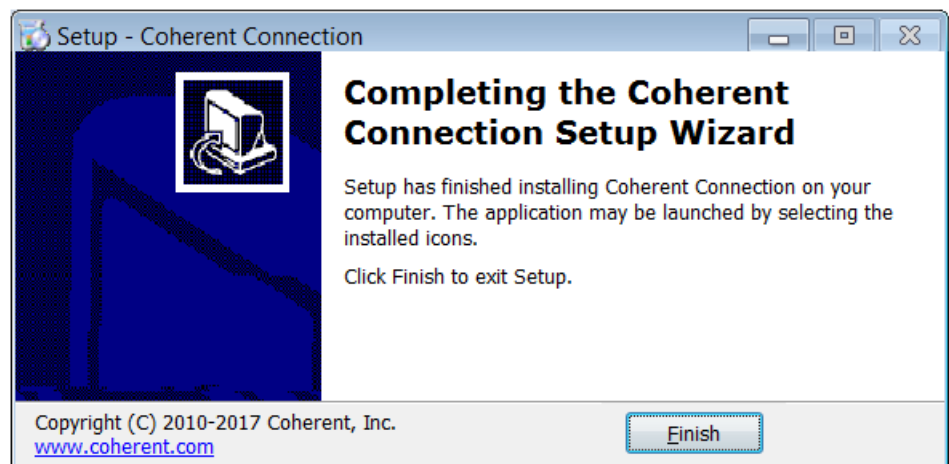

Figure 4-9. Finish the Software Installation
11. After all files are extracted, click Finish. The screen shown in Figure 4-9 closes and the software is ready to be launched.